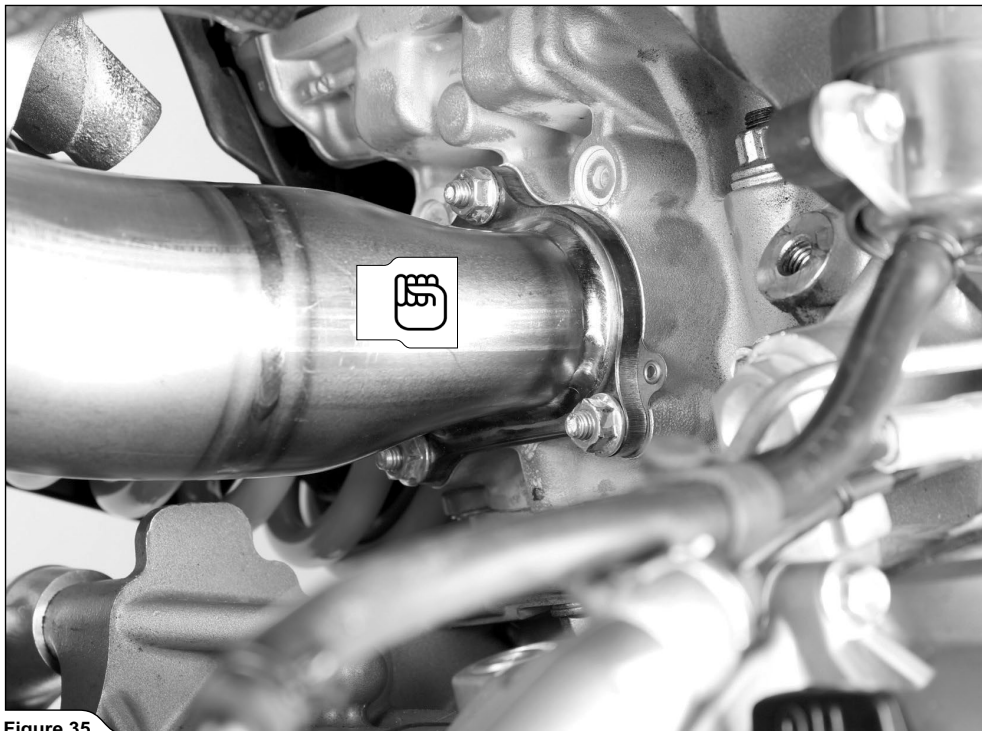

Figure 35
7. Hand tighten the rear header onto the cylinder head, using stock nuts (Figure 35).